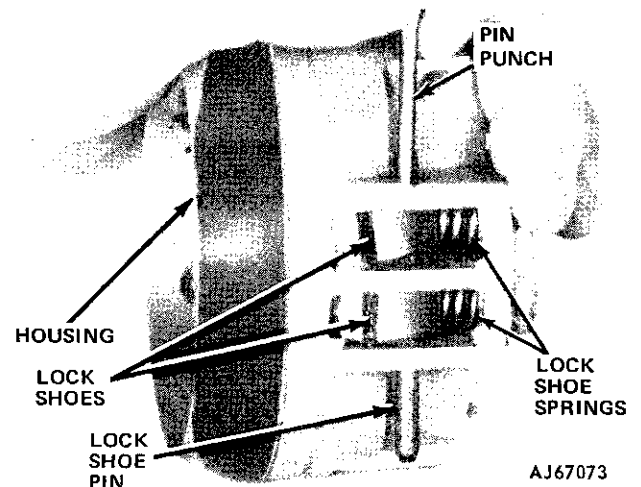

Fig. 2J-38 Lock Shoe Pin Removal
(35) Remove release lever pin from housing using pin punch or tool J-22635 (fig. 2J-37).